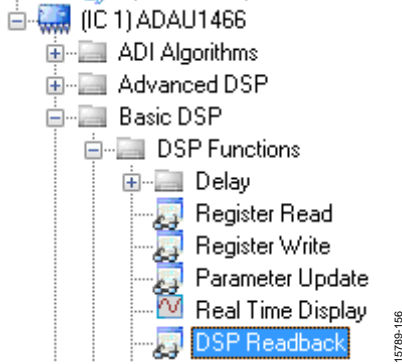

Figure 54. DSP Readback Block Selection
- a. From the **Basic DSP > DSP Function** folder, click **DSP Readback** (see Figure 54) and drag it into the project space to the right of the toolbox.